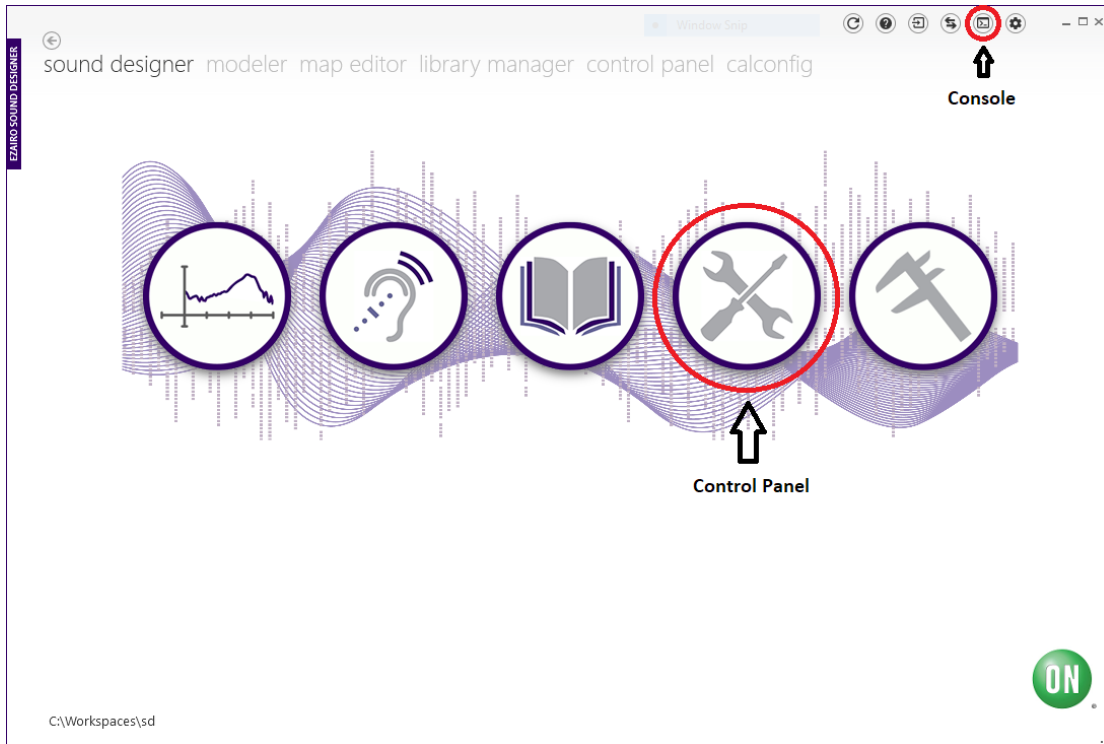
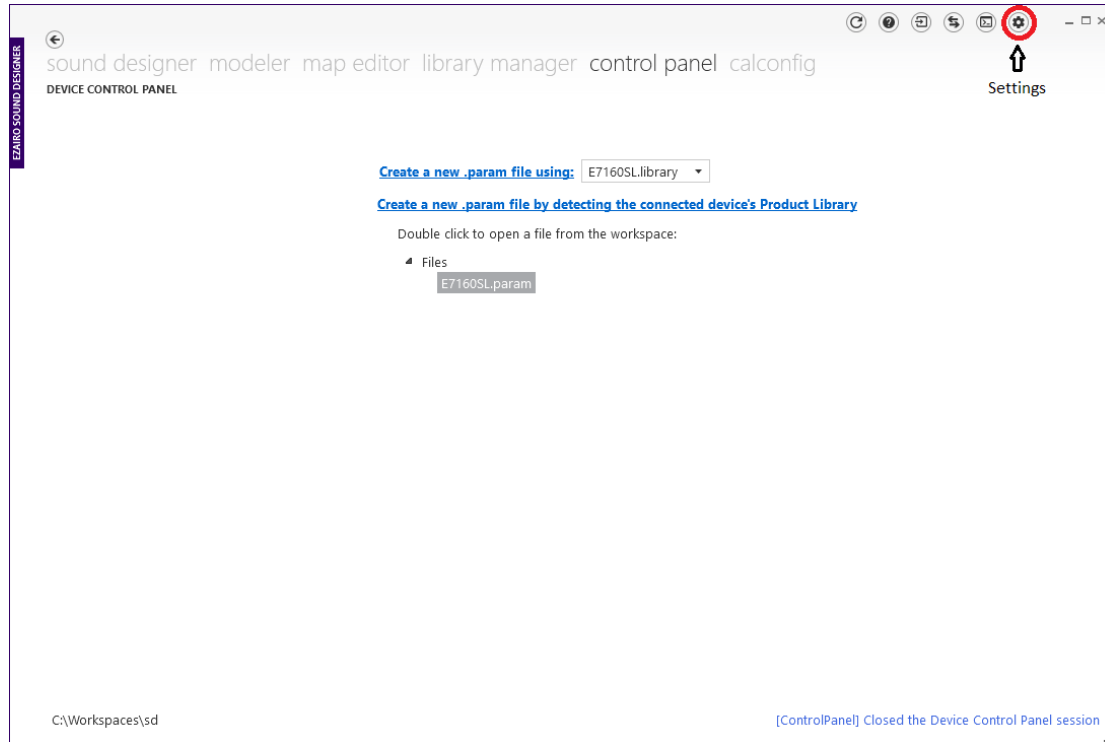

Figure 8. Opening the Control Panel and the Console Window
Figure 9. Selecting the Parameter File
4. Optionally, open the console window by clicking the Show Console icon (shown in Figure 8, below). The console window displays error and status messages accumulated in this session. We recommend having the console viewable at all times while using Sound Designer Software, to get immediate status information.
5. To configure device parameters, click on the **Control Panel** icon (circled in red in Figure 8, above) and, when prompted, double-click the **Ezairo7160SL.param** sample parameter file to open the demo product library, as shown below in Figure 9 on page 15.